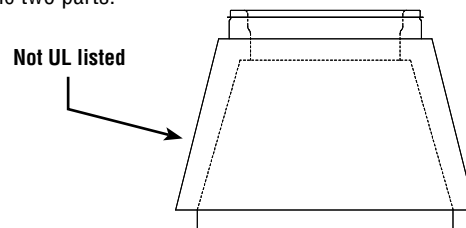

Figure 70 - Square to round adaptor
1. When the hood is equipped with a square or rectangular collar, a square to round adaptor is needed to connect the round DIS chimney to the hood (See **Figure 70**).